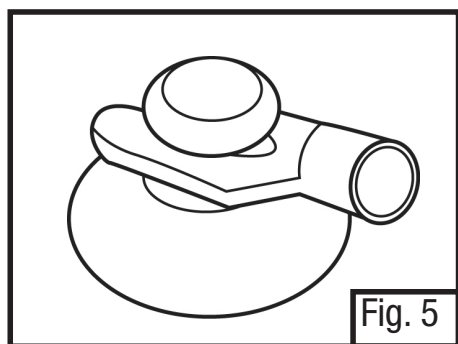

Fig. 5
7. Attach a suction cup to the forked end of a retainer clip (Fig. 5).